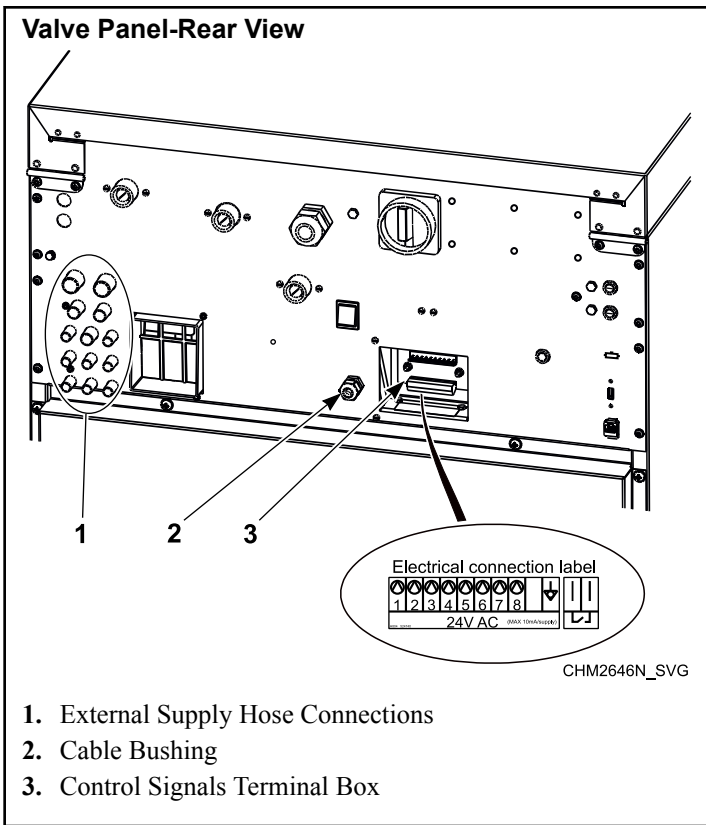

Figure 31
- 1. Facing the rear of the machine, locate the eight (8) 5/16 inch [8 mm] supply hose connections found on the left-hand side of the valve panel. Refer to *Figure 31*.
The electric connection for supply control signals is available on the rear panel. Refer to *Figure 31*. At the terminal box, there is a label for electric connection. Detail on connection of signals can also be found on the electric scheme of the machine.